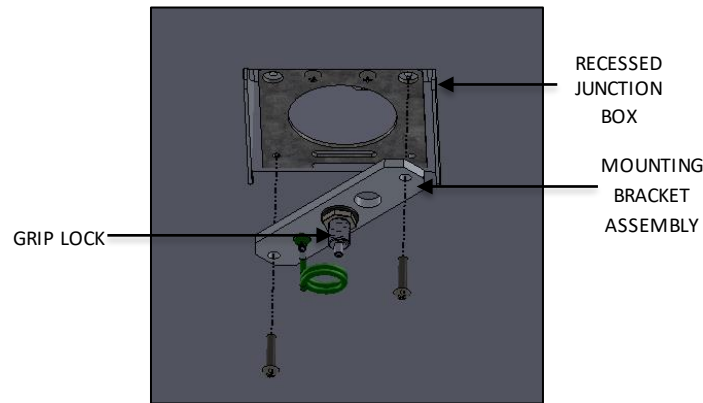

FIG. 24 - MOUNTING BRACKET ASSEMBLY
1. Secure the MOUNTING BRACKET ASSEMBLY to the JUNCTION BOX with two screws (by others) as shown below in FIG. 24.